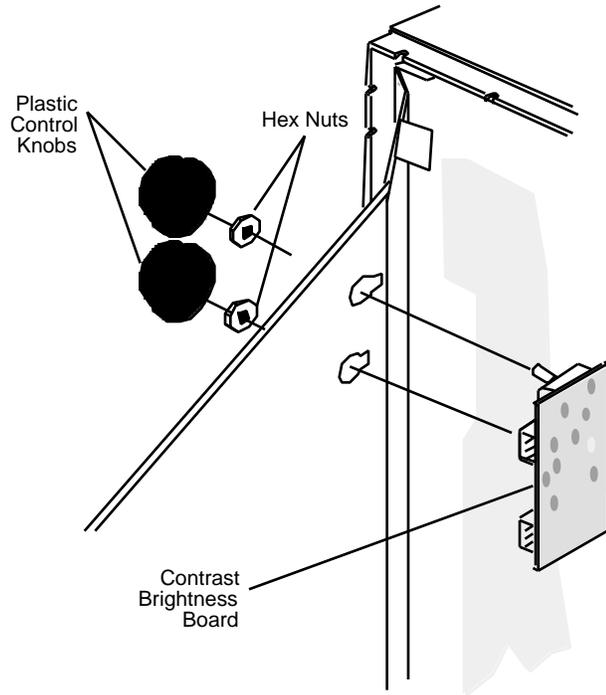

FIGURE 9
5. Pull off the two plastic control knobs (Figure 9). Keep the knobs to install them on the replacement board.
6. Using an adjustable wrench, loosen and remove the two hex nuts from the two adjustment knobs, and remove the contrast brightness board (Figure 9).
1. Replace the contrast brightness board (Figure 9) on the chassis, and install the two hex nuts. Tighten the nuts with an adjustable wrench.
2. Replace the two control knobs (Figure 9).